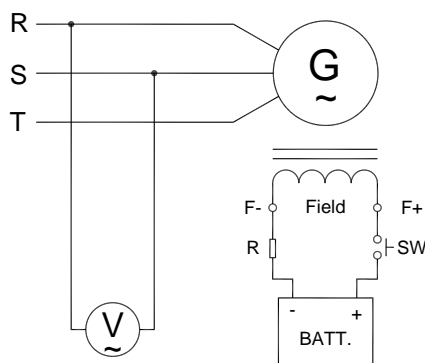

Figure 2 Manual Field Flash
- 5.1 Installation Notice : (Refer to Figure 2 and 4).
6.2.1 Shut down generator, disconnect the wiring between AVR and generator then flash the field. Flashing duration = 3 seconds. (See wiring in Figure 2)
6.2.2 Restart generator and measure the residual voltage by AC Voltmeter, if it is still less than 5 Vac, repeat the previous process, after several times, the residual voltage still cannot be built, Kutai EB500 is strongly recommended, see Figure 2.